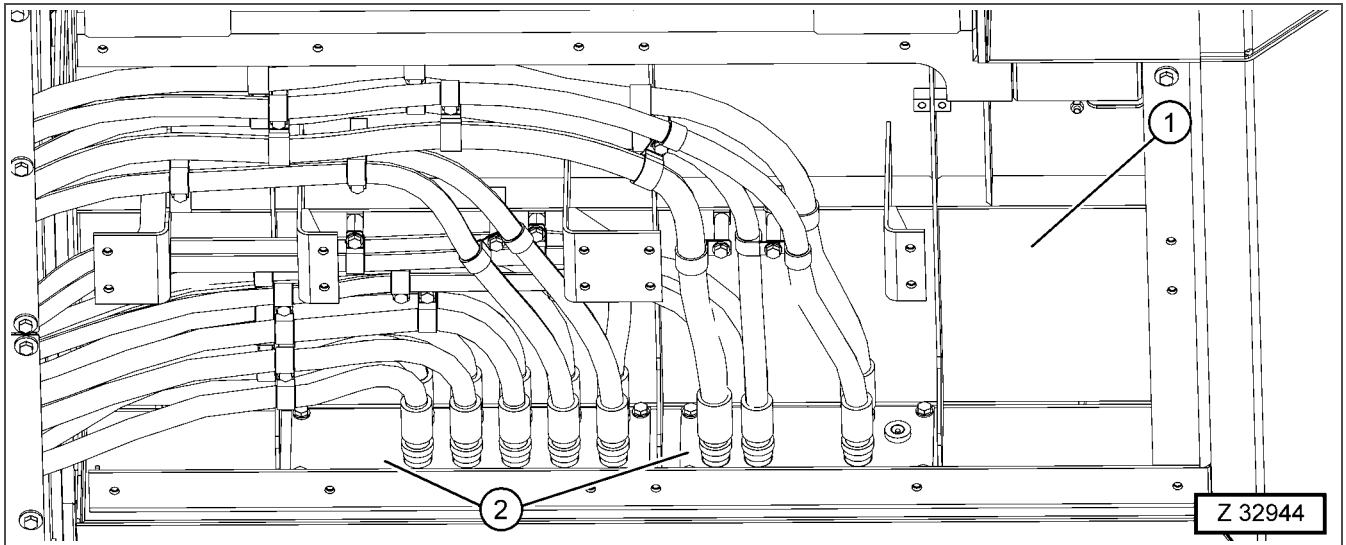

Fig. 3-398 View from below
7. Disconnect the wiring harnesses from the connecting plate (Fig. 3-398, Pos. 2) at the bottom side of the cab base (Fig. 3-398, Pos. 1).